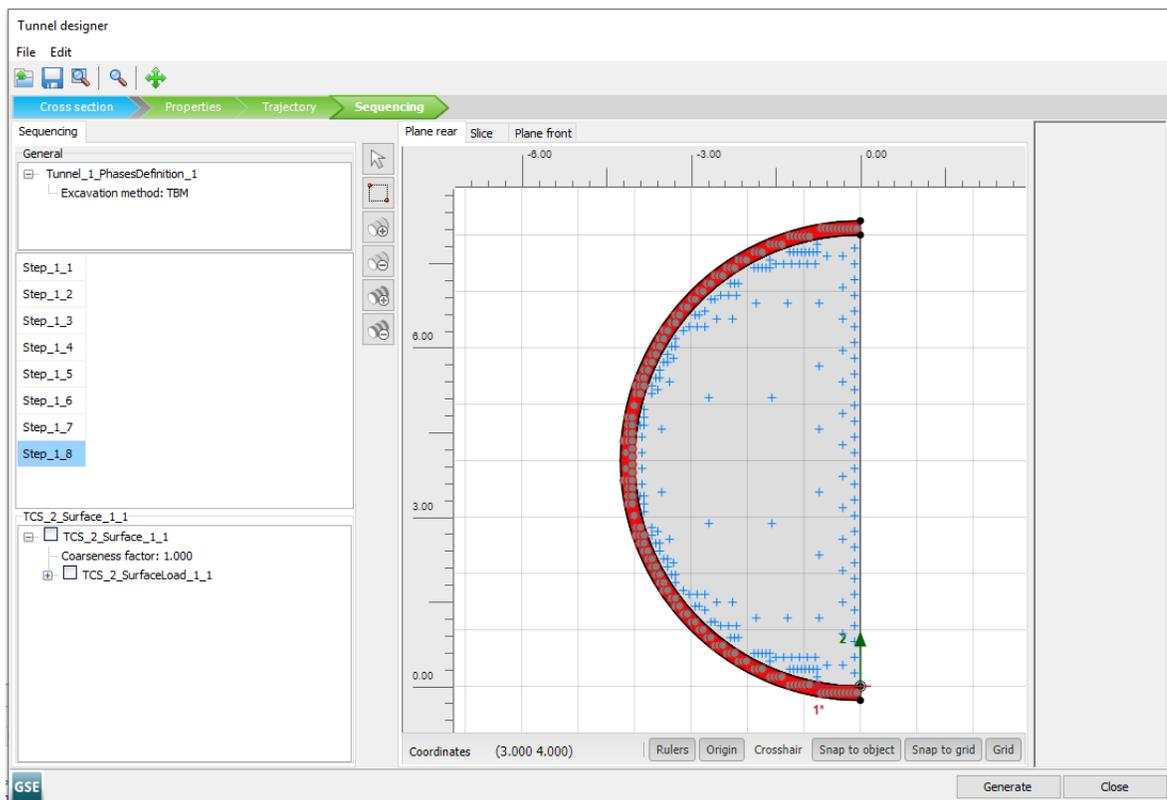

Figure 76: Plane rear tabsheet in the **Tunnel designer** Step_1_8
- In the **Selection explorer**, deactivate the surface load corresponding to the thrusting jacks (Figure 76 (on page 102)).